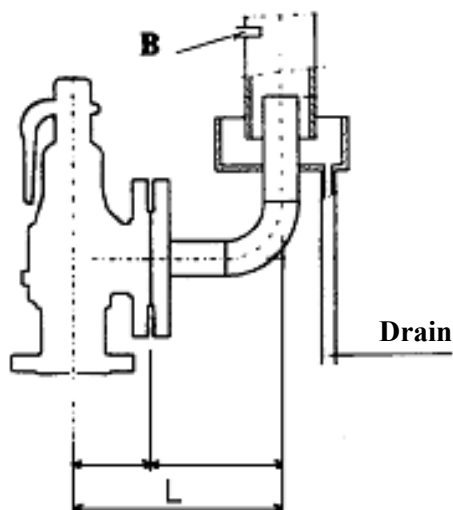

Fig. 2A
- In both cases, please refer to the installation diagram in Fig. 2A - 2B - 2C - 2D